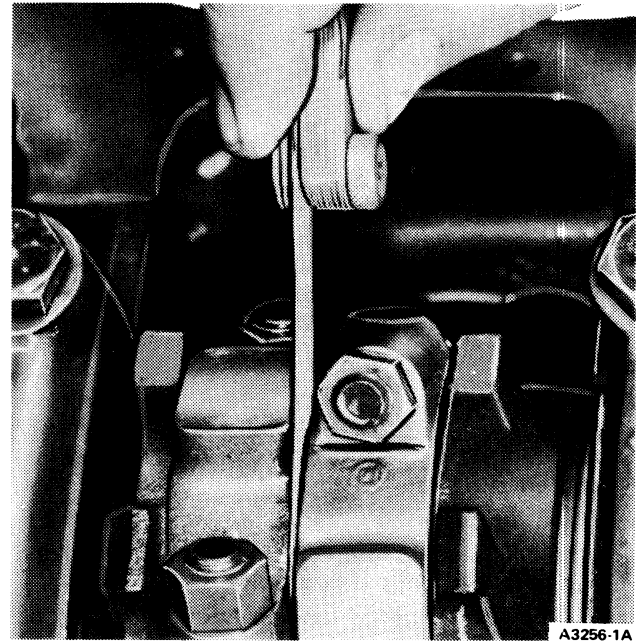

FIG. 38 Checking Connecting Rod Side Clearance
the connecting rods on each crankshaft journal (Fig. 38).
27. After the piston and connecting rod assemblies have been installed, check the side clearance (refer to Specifications at the end of this Part) between the connecting rods on each connecting rod crankshaft journal (Fig. 38).